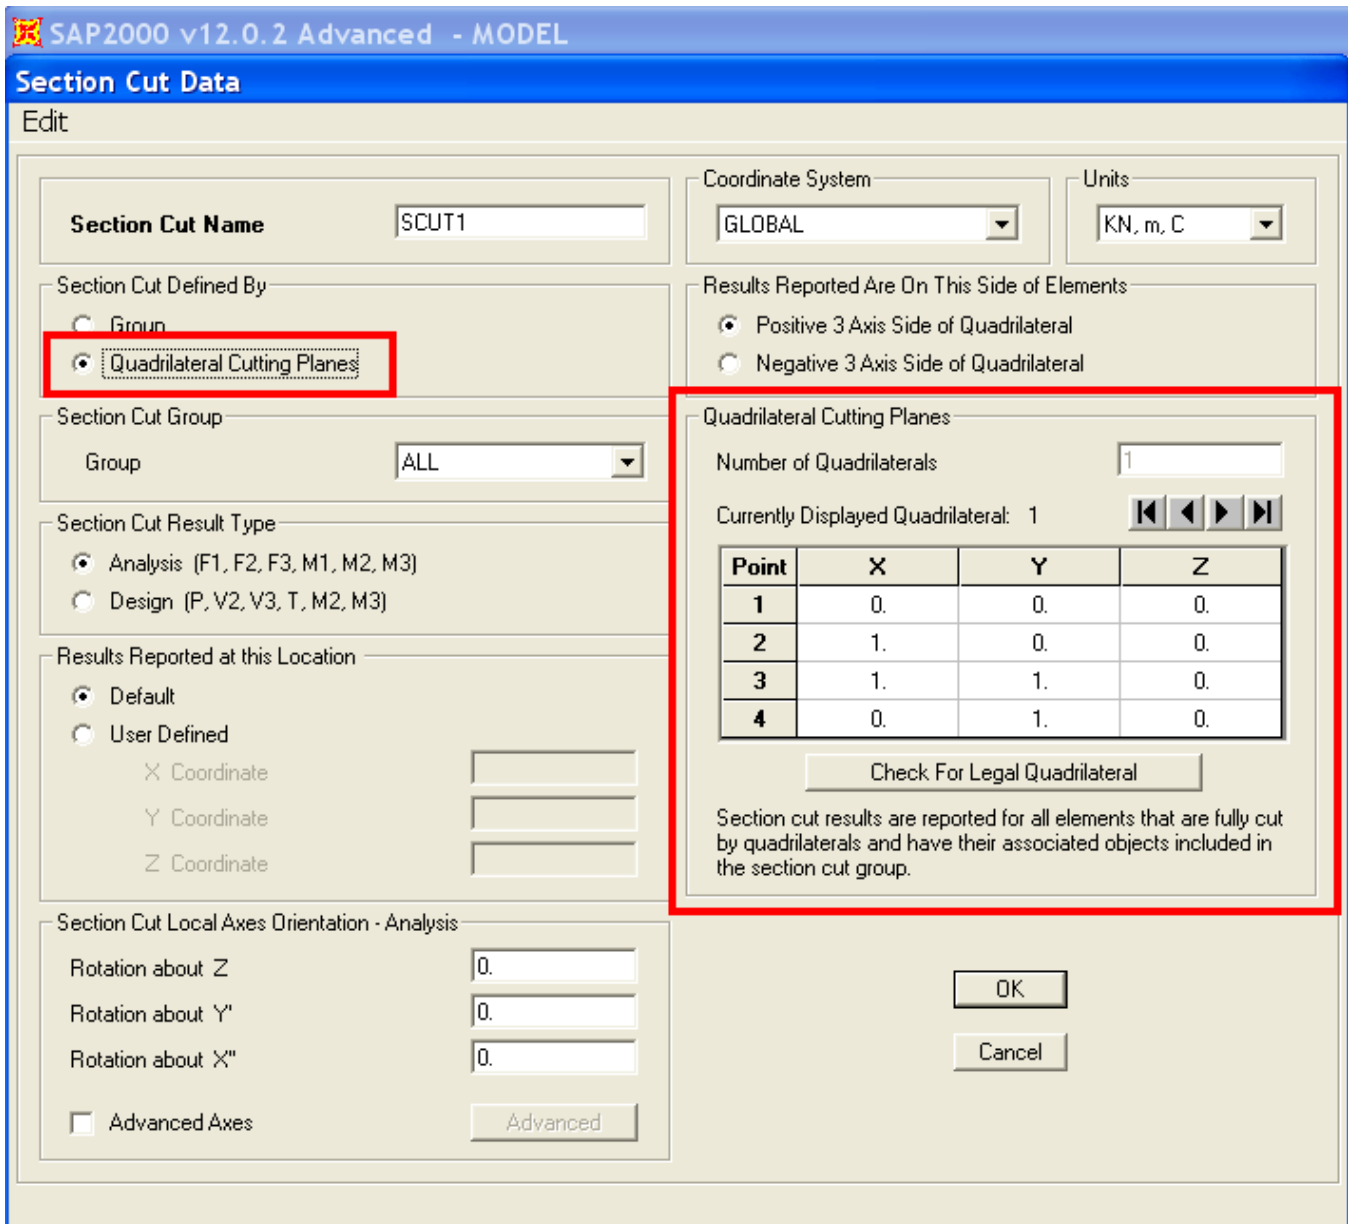

Figure 1 - Define a quadrilateral cutting plane
- Select Quadrilateral Cutting Planes, then define the plane by specifying its joint coordinates, as shown in Figure 1: